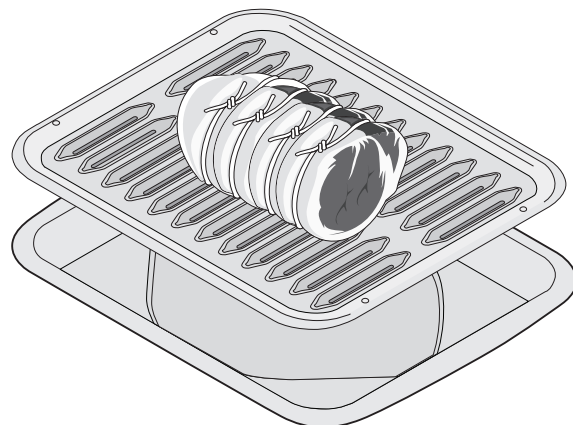

Figure 21: Roasting on insert with drip pan
4. Place meat (fat side up) on roasting rack and the roasting rack onto the insert. (Figure 21). Place prepared food on oven rack and slide into oven.